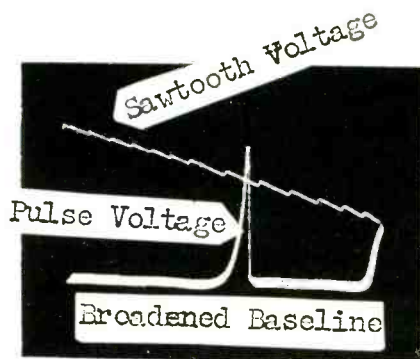

Fig. 6—A 60-cycle waveform with some 15,750-cycle information superimposed. The 15,750 cycle component broadens the baseline of the 60-cycle component.
A. Yes. This situation is illustrated in Fig. 6. This is an artifice which is frequently useful to determine the fine detail of a waveform when the horizontal sweep rate of the scope is inadequate. The particular portion of the pattern which appears on the flyback trace can be controlled by adjusting the level of the sync control on the scope panel.